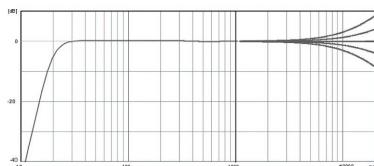

Figure 6
- The *>6 kHz* control is a shelf filter that allows to progressively raise or lower the frequencies above 6 kHz (see Fig. 6).